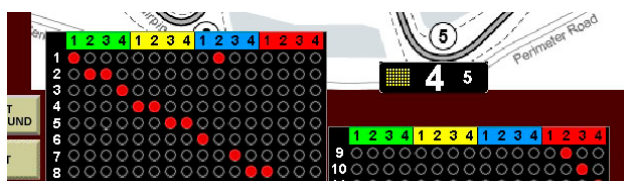

Figure 5 - iTSL Linked Turn Groups
(16) different turns are available designated as turn1 through 16. Notice in Figure 5, there are two turn group tables at the bottom of the screen containing all the iTSL IDs and eight turn numbers each, turns 1 through 8 in the left table and turns 9 through 16 in the right table. To link iTSLs into a turn group for a specific turn, locate the ID color and number, then move down to the desired turn number and click in the circle. The circle will change red and the iTSL onscreen will display the turn number selected. To remove a iTSL from a turn group, click on the red dot again. To change turn groups, click on the circle of a different letter and the iTSL will transfer to that turn group.